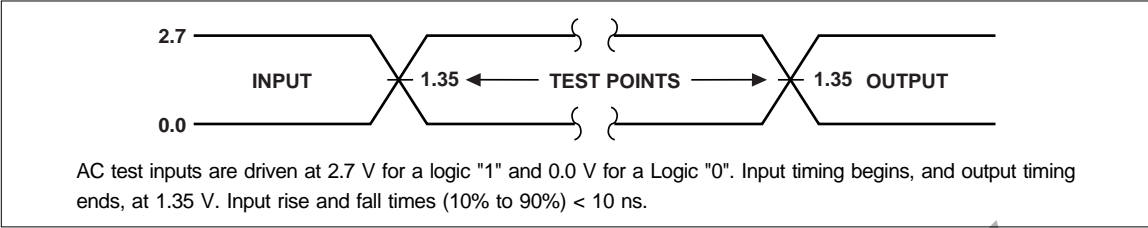

Fig. 7 Transient Input/Output Reference Waveform for $V_{CC} = 2.7$ to 3.6 V
1. See AC Input/Output Reference Waveform (**Fig. 7**) for maximum allowable input slew rate.